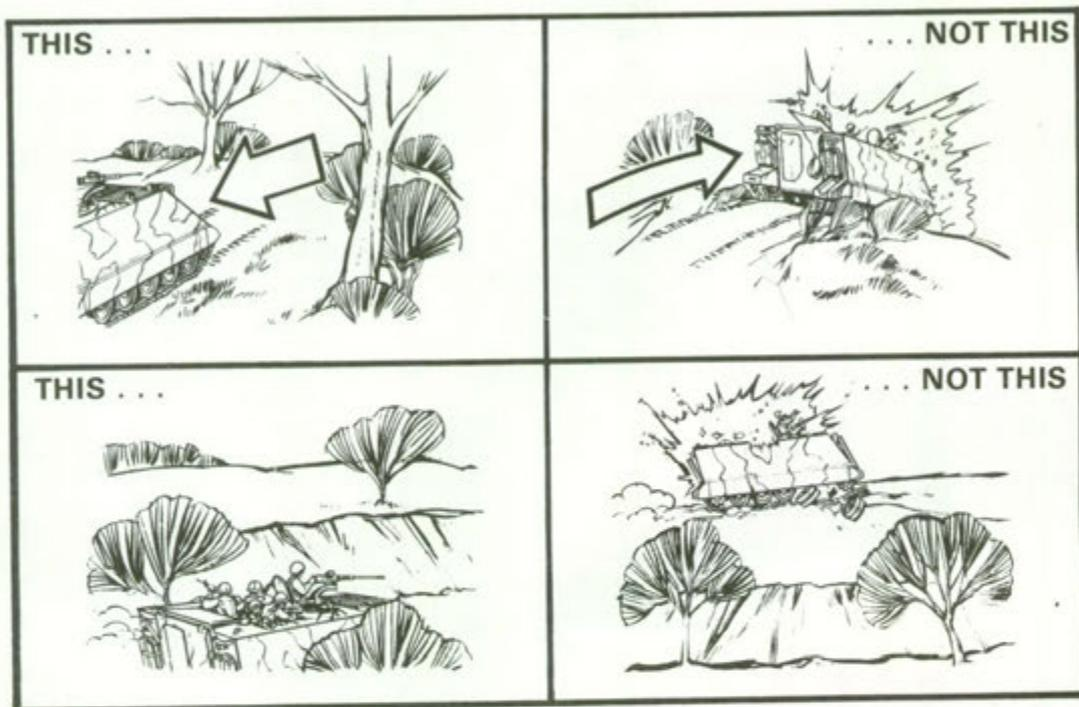

Figure 2.
a. Never skyline or move directly forward from a defilade position (figure 2).